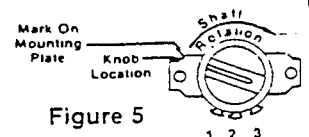

Figure 5
5. Position shaft at maximum clockwise (C.W.) rotation and align white indexer on knob with white mark on mounting plate (diaphragm flange will need to be lifted up to expose mounting plate). Secure set screws using a 1/16" (1.6) hex socket wrench. (See Figure 5.)